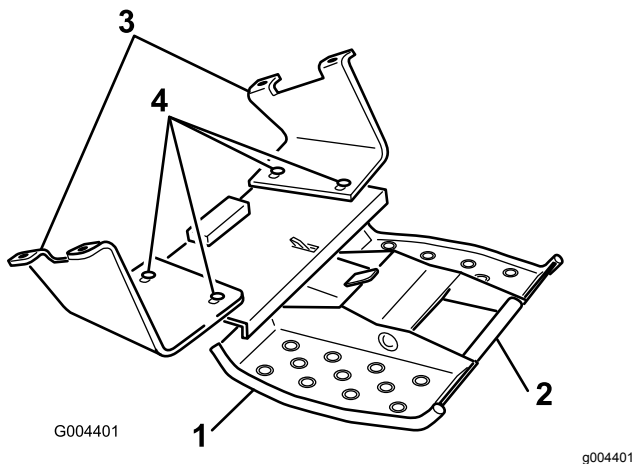

Figure 4
3. Grab the platform handle and pull up on it to extend the platform (Figure 4).
4. By hand, loosen, but do not remove, the 4 bolts and nuts securing the platform assembly to the mounting brackets (Figure 4).
7. Align the platform so that it is centered on the machine (Figure 4), then torque the 4 bolts and nuts securing the platform assembly to the mounting brackets to 91 to 113 N·m (67 to 83 ft-lb).